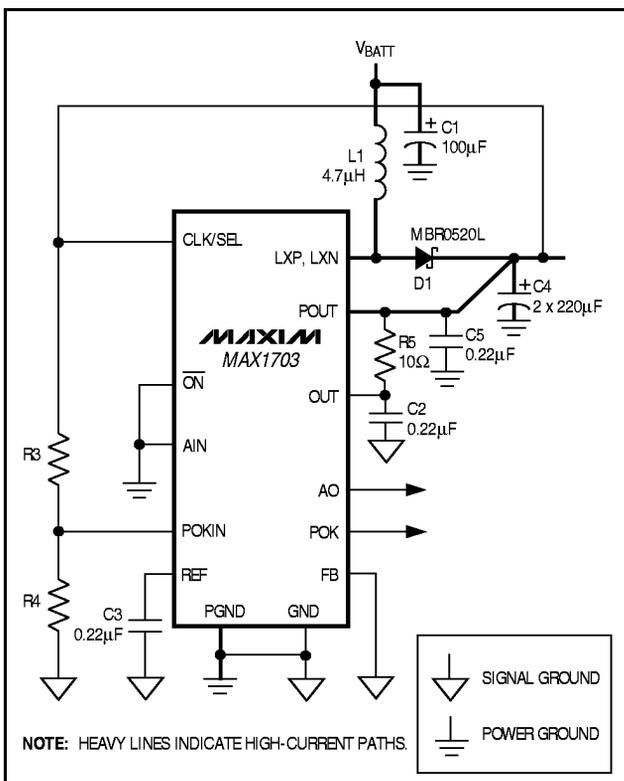

Figure 2. MAX1703 in High-Power PWM Mode
**Note 3:** Start-up is tested with the circuit of Figure 2.
The MAX1703 is optimized for use in cellular phones and other applications requiring low noise during full-power operation, as well as low quiescent current for maximum battery life in low-power mode and shutdown. It features constant-frequency (300kHz), low-noise PWM operation with up to 1.5A output capability. See Table 1 for typical outputs. A low-quiescent-current, low-power mode offers an output up to 150mA and reduces quiescent power consumption to 300 $\mu$ W. In shutdown mode, the quiescent current is further reduced to just 1 $\mu$ A. Figure 2 shows the standard application circuit for the MAX1703.
Set the output voltage between 2.5V and 5.5V by connecting a resistor voltage-divider to FB from OUT to GND, as shown in Figure 2. The resistor values are then as follows: